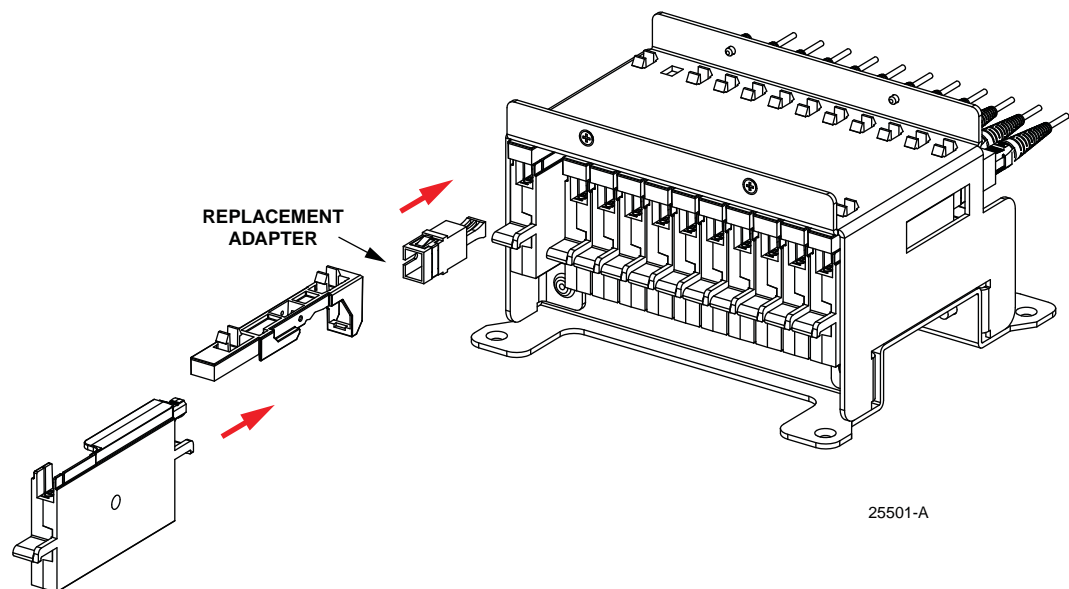

Figure 39. Installing Replacement Adapter
6. Install the replacement top side assembly in the splitter compartment. Remove the dust cap from the replacement adapter and install. Note key orientation (Figure 39).